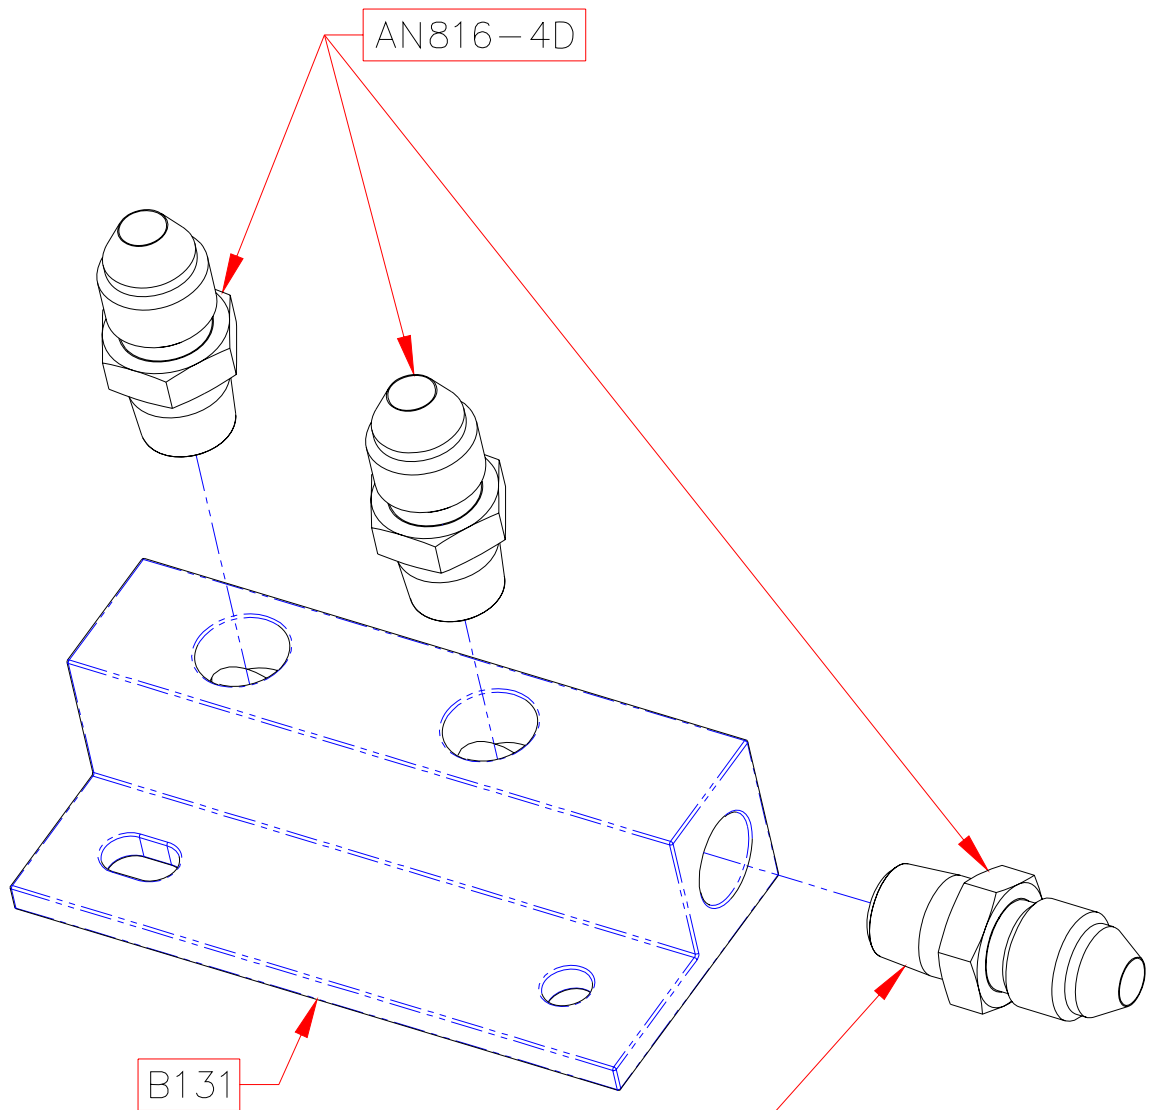

**FIGURE 4 - B133 & B137 INSTALLATION
18. Locate and drill off B133 and B137 on console. See Figure 4, STRBD side shown install on PORT side also.
20. Install four AN837-4D 45° bulkhead fittings onto the B133 Bracket as shown in Figure 4. The fittings should be angled up approximately 45° and only finger tight at this time.